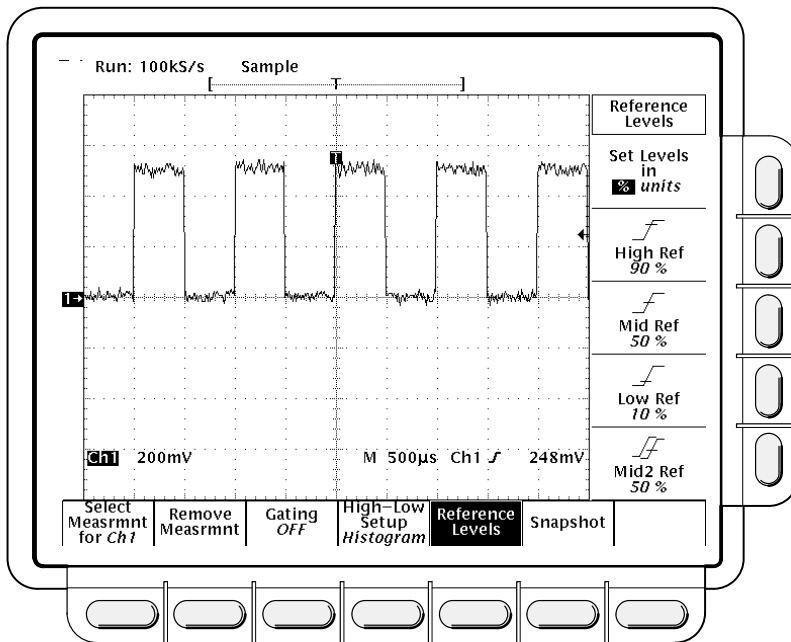

Figure 3-47: Measure Menu — Reference Levels
1. Press **MEASURE** → **Reference Levels** (main) → **Set Levels** (side) to choose whether the References are set in % relative to High (100%) and Low (0%) or set explicitly in the units of the selected waveform (typically volts). See Figure 3-47. Use the general purpose knob or keypad to enter the values.